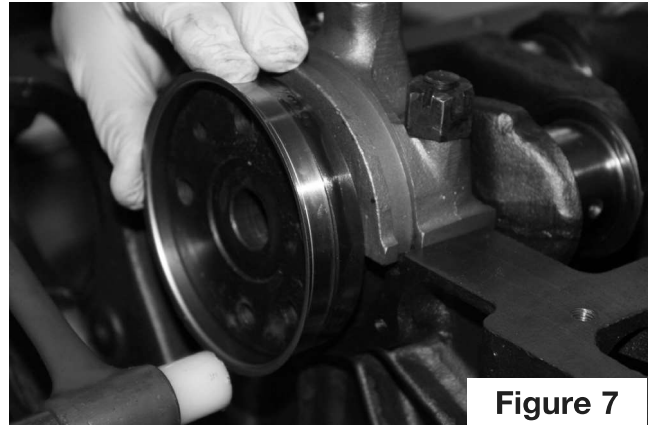

Figure 7
- 7) Very gently tap around the curved edge of the Speedi-sleeve with a soft-faced mallet and work it onto the flange. (Figure 7)